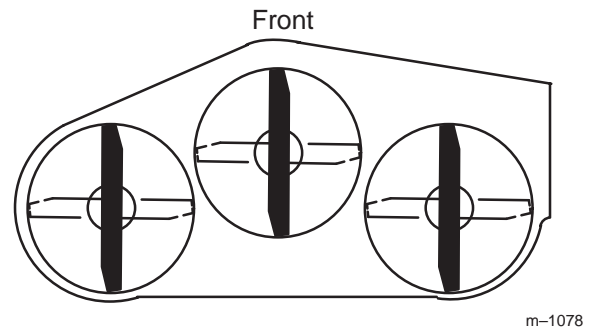
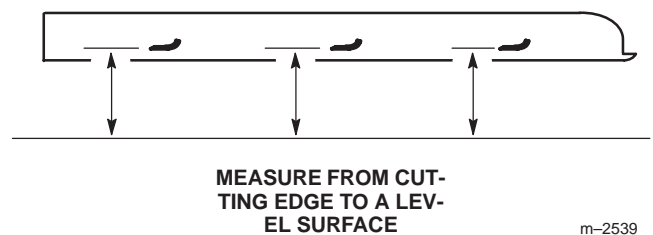

Figure 28
Figure 29
1. Rotate the blades until the ends face forward and backward (Fig. 28). Measure from a level surface to the cutting edge of the blades (Fig. 29). Note this dimension.